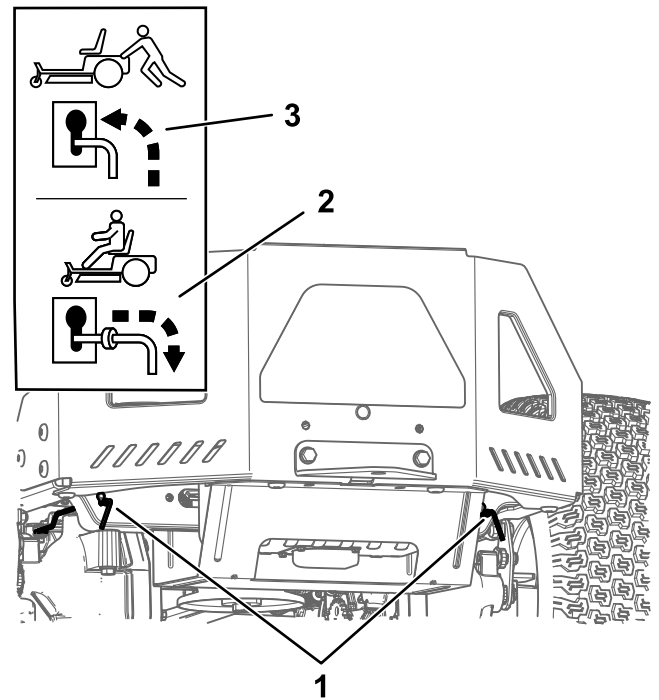

Figure 25
4. Move the bypass levers forward through the slotted hole and down to lock them in place (Figure 25).
Move the bypass levers rearward through the keyhole and down to lock them in place as shown in Figure 25.